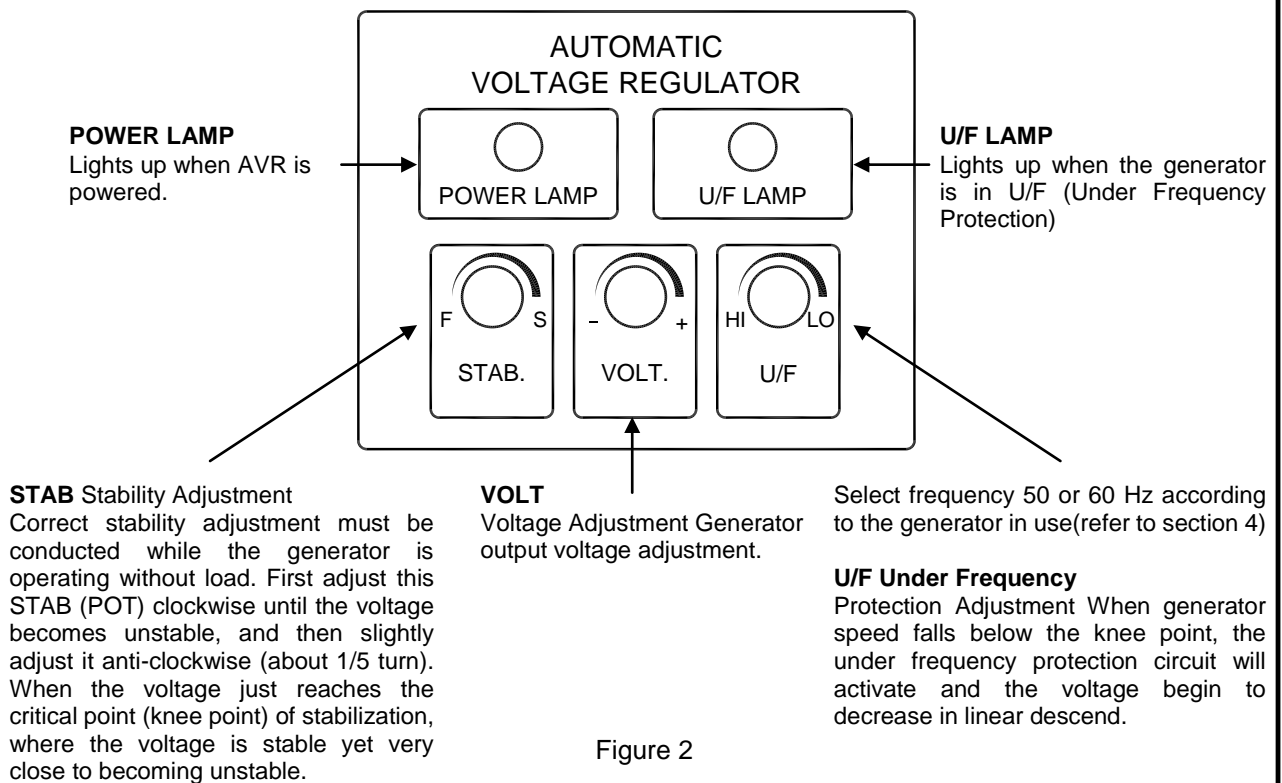

Figure 2
- Please refer to Figure 2 “EA45AF-1”
5.2.1 Please refer to Figure 2 “EA45AF-1”
5.3.1 Please refer to Figure 2 “EA45AF-1”